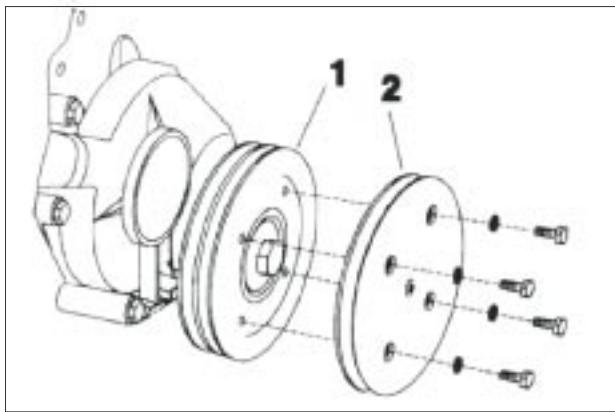

FIG. 2
- 4.** Mount A/C Pulley to Engine Crank Pulley using (4) 5/16" x 1" UNF capscrews and lockwashers. **Tighten Securely**. See FIG. 2.